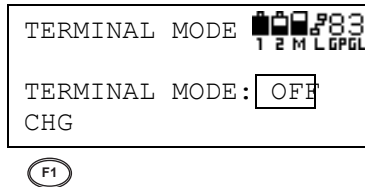

Figure 3-146. Press F1 to Change Setting
- On the Terminal Mode screen, press **F1** (CHG) to change the setting (Figure 3-146).